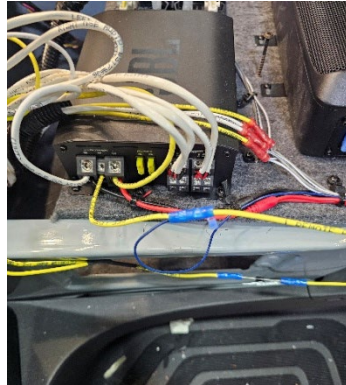

Figure 6
- Connect the remote wires from the amplifier to the jumper harness as shown in figure 6.